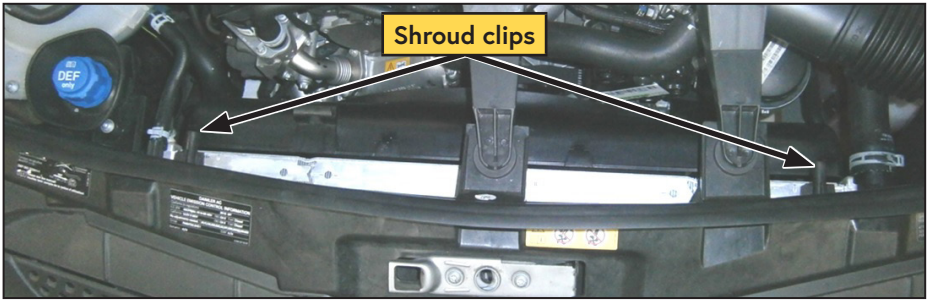

Figure 8 — Shroud clip locations
- Push in the clips on either side of the radiator to release the shroud from the radiator frame. Gently lift up to keep the clips unlocked (Figure 8).